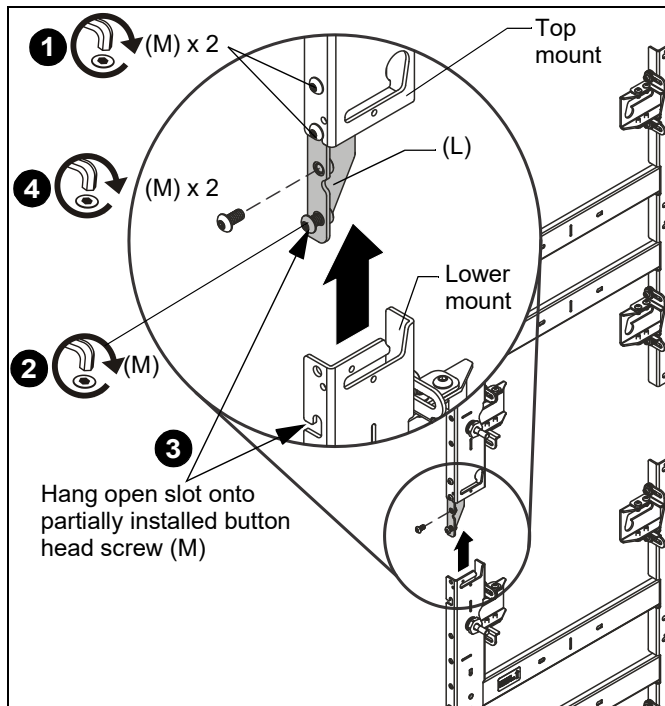

Figure 2
1. Slide the vertical connector (L) up from the bottom of the mount, and attach with two 1/4-20 x 1/2" button head cap screws (M) per vertical connector. (See Figure 2)
2. Loosely install one 1/4-20 x 1/2" Phillips pan head screw (L) in the lower screw hole at the bottom of each vertical connector (L). (See Figure 2)
3. Hang the open slot of the lower mount onto the partially installed button head screw (M). (See Figure 2)
4. Tighten both lower button head screws (M). (See Figure 2)